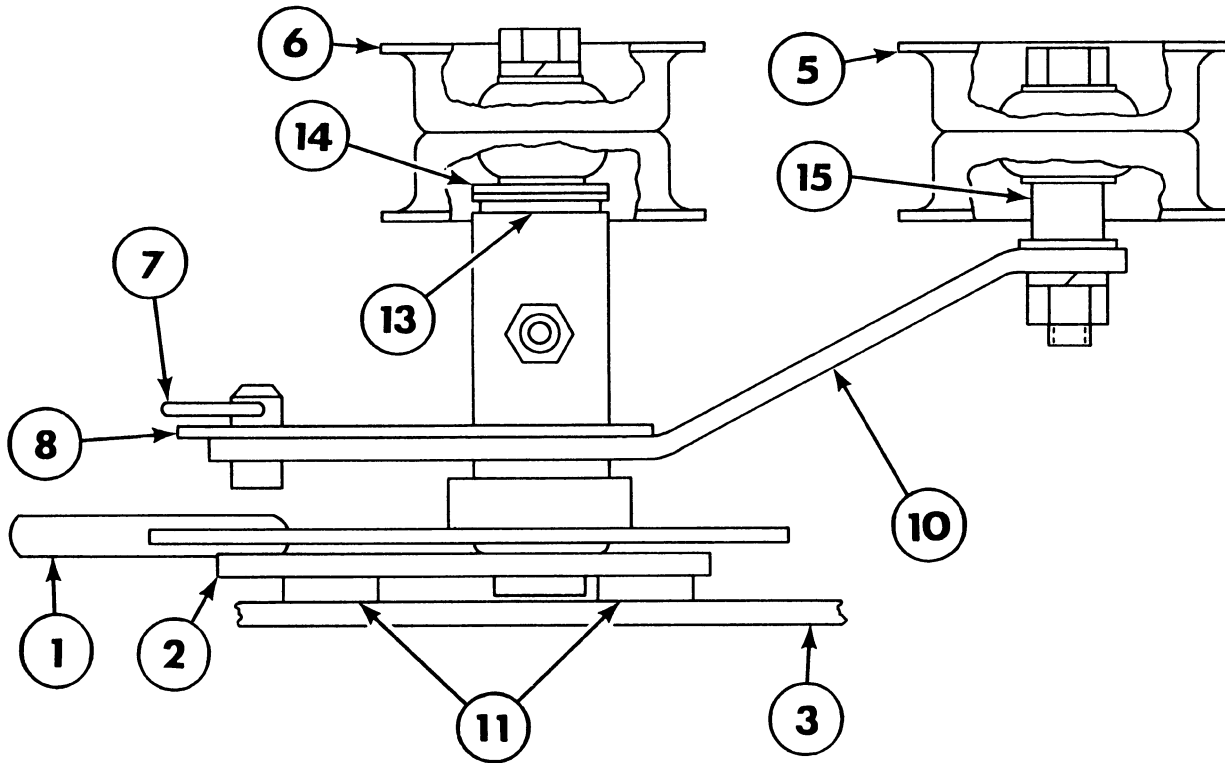

Figure 12-59
2. Coat the bracket shaft, 2, Figure 12-59, with grease and slide the manual trip lever, 1, and pivoting bracket, 10, on the shaft.
4. Place the spring bracket, 8, Figure 12-59, on the hub of the pivoting bracket, 10, and install a 1/4"-28 grease fitting in the hub.
6. Use 0.060" (1.5 mm) thick washers, 13, Figure 12-59, on the bracket shaft to obtain less than 0.060" (1.5 mm) end play of the pivoting bracket after the idler, 6, is installed.